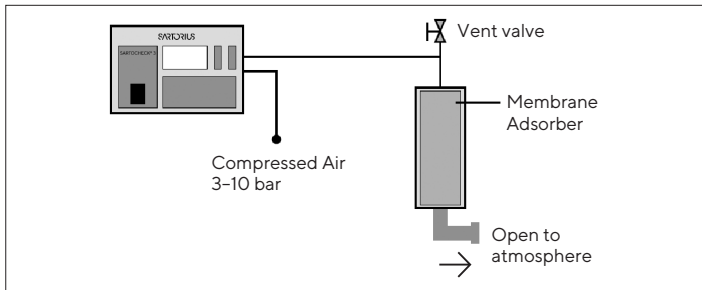

Fig. 8: Set up of diffusion test with Sartochek®.
- ▶ Install capsule as shown in Fig. 8.